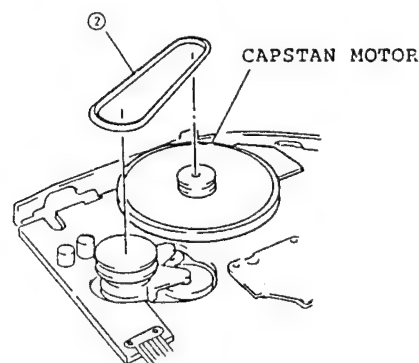

Fig. 2-65
2. Remove the capstan belt. (See Fig. 2-65)